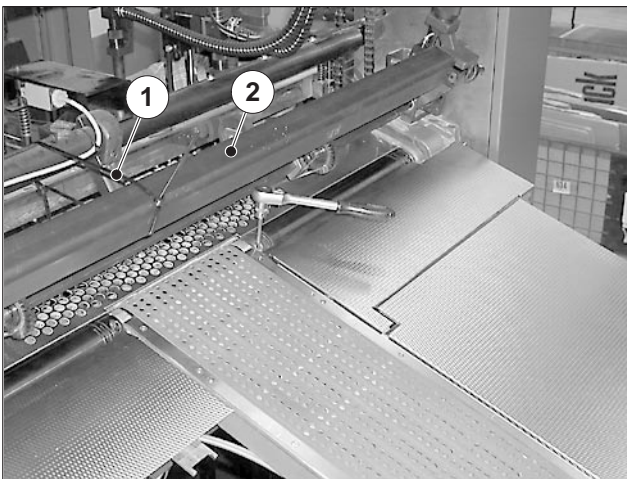

Fig. 82
6. Secure the tear-off detector / multiple-sheet detector (Fig. 82/2) at the upper position. Use a cable tie (Fig. 82/1), for example, to secure the detector.